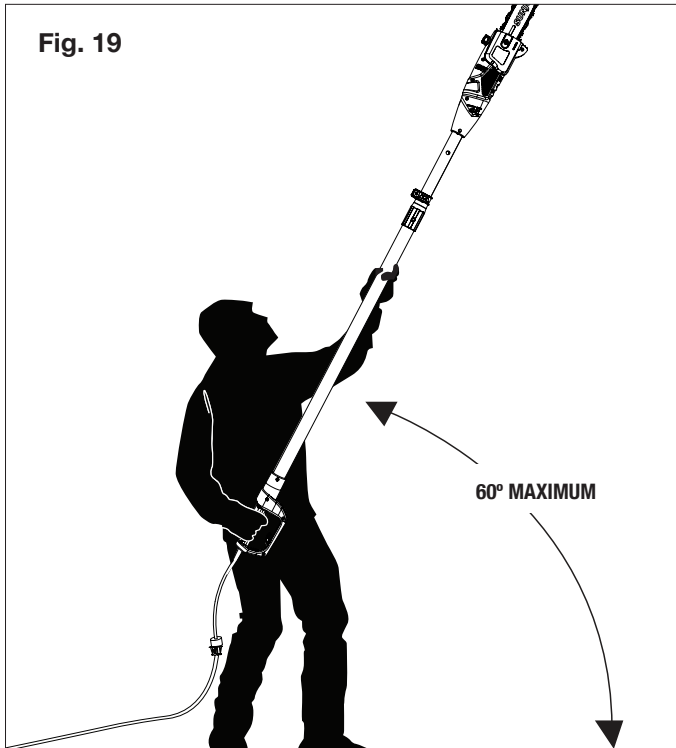

Fig. 19
- The most typical cutting application is to position the unit at an angle of 60° or less depending on the specific situation (Fig. 19). As the angle of the pole chain saw shaft to the ground increases, the difficulty of making the first cut (from the underside of the limb) increases.
- Take the proper stance in front of the tree with the saw OFF (Fig. 19).